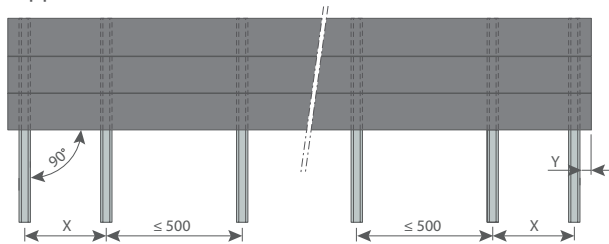

fig.1: Installation 90°
- Installation 90° (fig. 1): possible for all mentioned support beams in this manual.